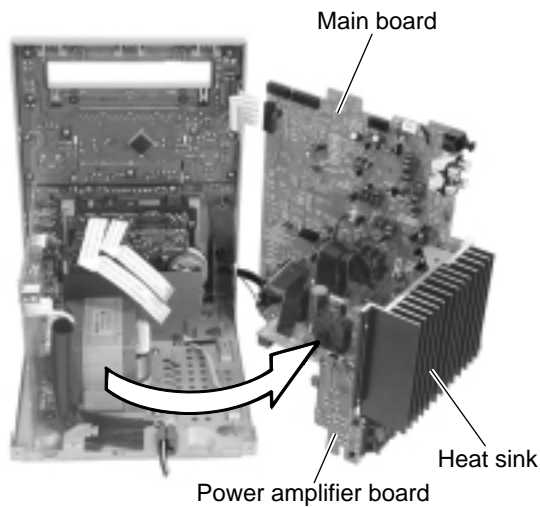

Fig.17
**CAUTION:** The wire extending from the lower side of the main board is still connected with the body (Refer to Fig.17).
- Remove the assembly consisting of the power amplifier board, the power amplifier sub board and the main board from the chassis incompletely (Refer to Fig.17).
- Remove the assembly consisting of the power amplifier board, the power amplifier sub board and the main board (Refer to Fig.17 and 18).